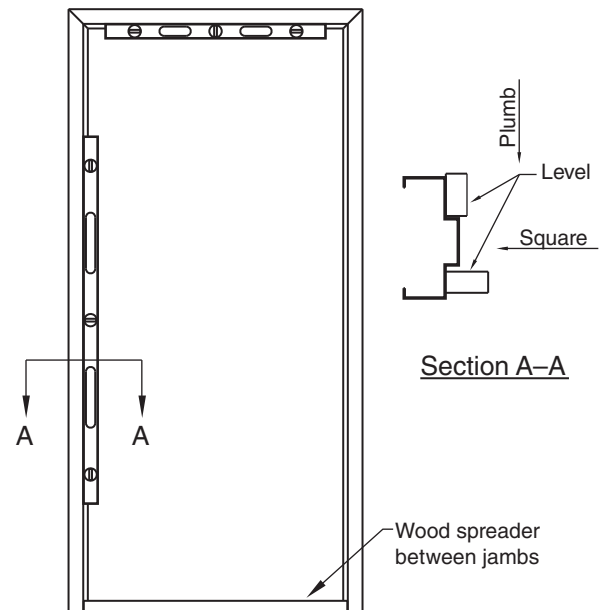

Figure 3 – Plumbing the frame
3.2 Equipment for plumbing the frame (see Figure 3)